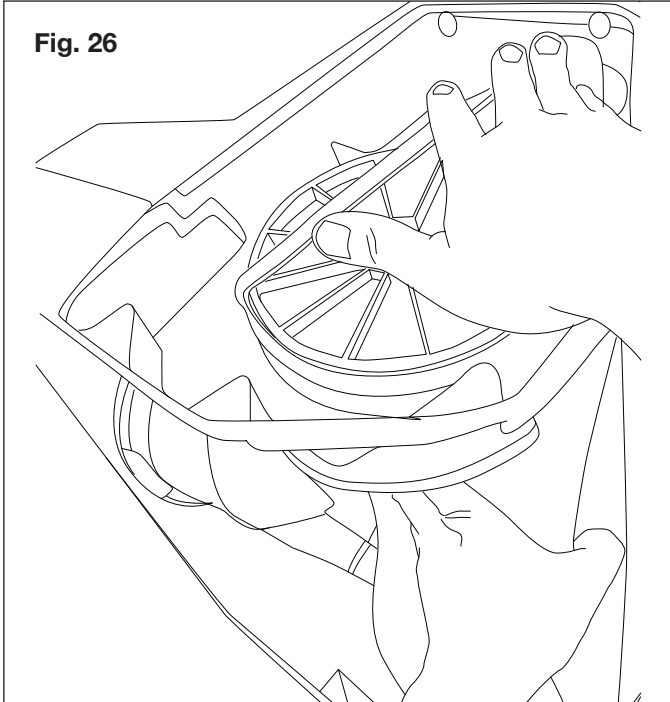

Fig. 26
- Use your right hand to press the belt with ribbed side down. While holding the belt down with your right hand, use your left hand to turn the auger forward so that the auger pulley rotates in a clockwise direction. The belt will be gradually pushed down onto the pulley. When the belt is seated on the pulley, adjust it so that the ribs of the belt match the grooves on the pulley (Fig. 26).